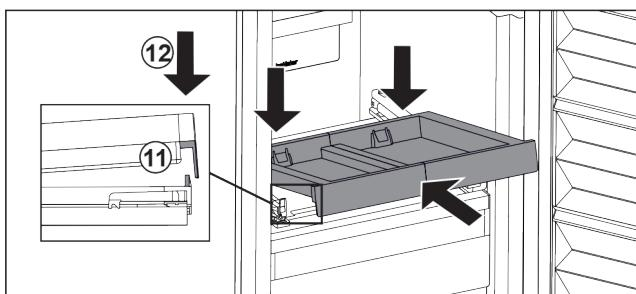

Fig. 103
- ▶ Slide in at an angle. Make sure that the stop is behind the lug on both sides. Fig. 103 (11)
- ▶ Lower the pull-out board at the front. Fig. 103 (12)